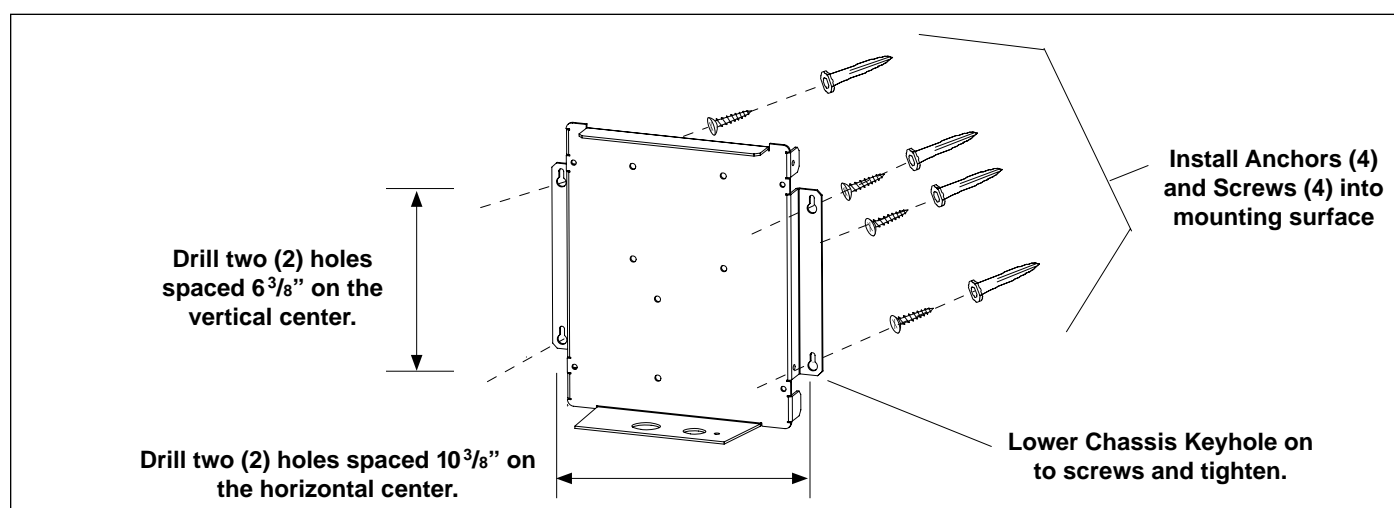

Figure 9. Mounting the Control Center Chassis Backplate
2. Use hardware provided and mount the control center at eye level. Leave sufficient clearance on all sides of the chassis backplate. If possible leave a minimum of 9½ inch (241 mm) on the left side. Position the backplate on the mounting surface. Mark screw centers and drill four ¼ inch (6.35 mm) holes spaced 10 ⅜ inches (264 mm) on the horizontal center and 6 ⅜ inches (162 mm) on the vertical center. Install the anchors (provided) into the mounting surface. See Figure 9.